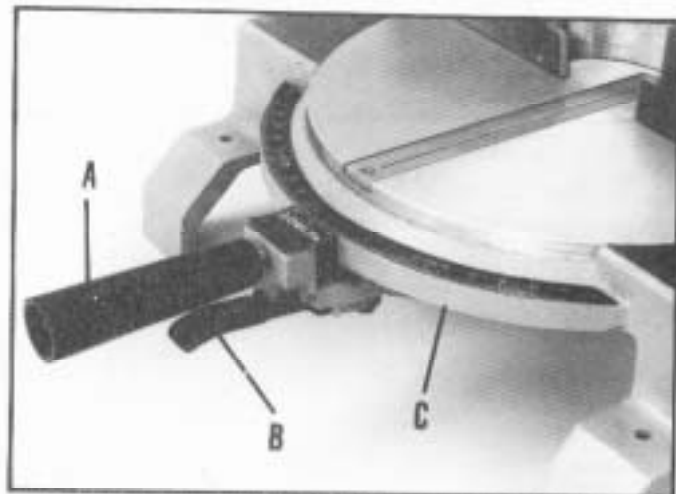

Fig. 15
Your miter box will cut any angle from a straight 90 degree cut-off to 47 degrees right and left. Simply loosen lock handle (A) Fig. 15, depress index lever (B) and move the control arm to the desired angle. Then tighten lock handle (A).
Your miter box also contains positive stops for the table control arm at the 0, 22-1/2 and 45 degree right and left positions. Simply loosen lock handle (A) Fig. 15, and move the control arm until the spring loaded positive stop engages into the indent located directly underneath the ledge (C) at the 0, 22-1/2 and 45 degree positions. Then tighten the lock handle (A). To disengage the positive stop, depress index lever (B). Always tighten lock handle (A) before cutting.